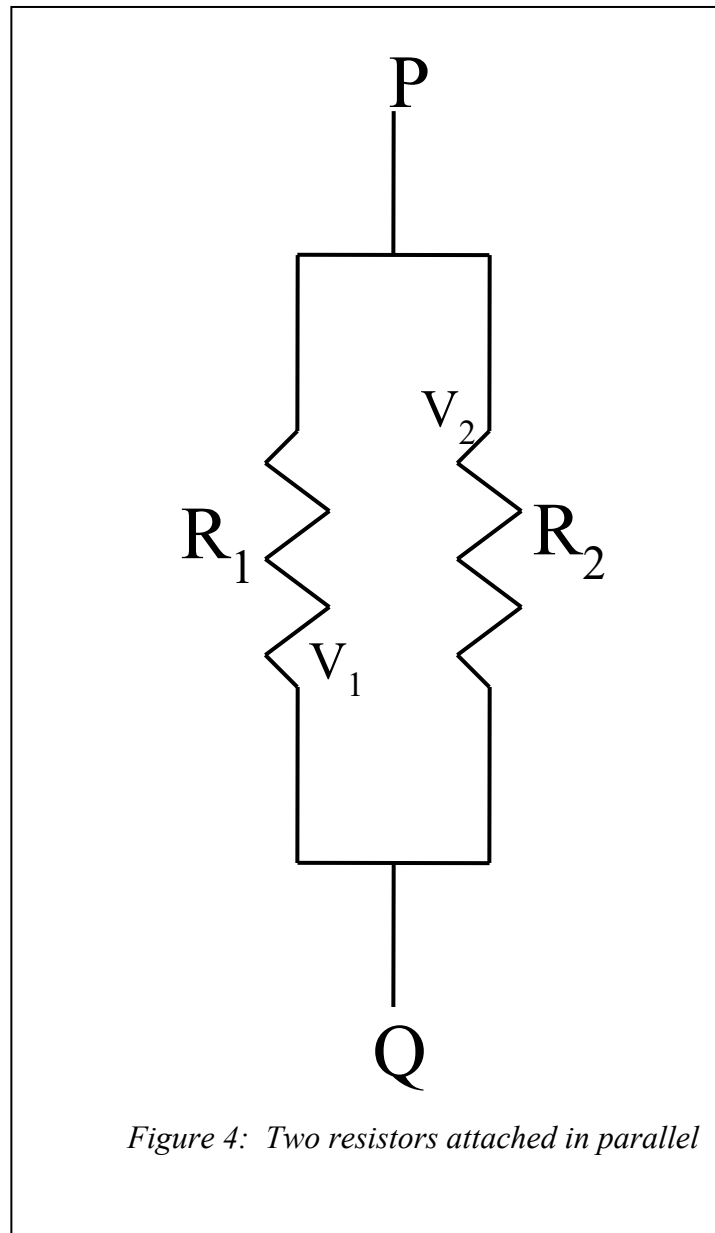

Figure 4: Two resistors attached in parallel
3. Now, connect the resistors in parallel, as shown in Figure 4, and connect them to the power supply that is set at 12 V. Record the voltage across each resistor, using the multimeter. Record the measured values in Data Table 2.